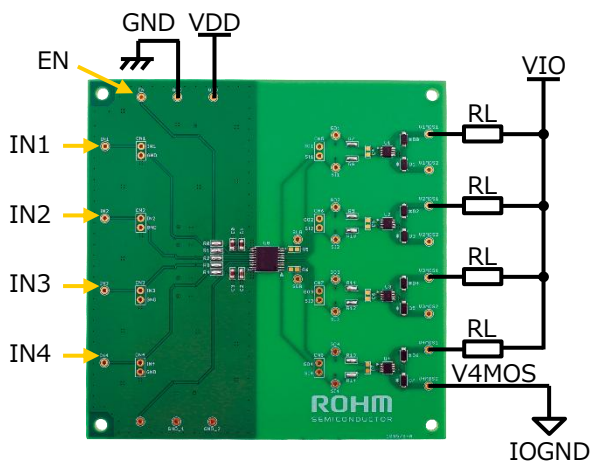

Figure 4. Input Signals
- Set the EN terminal to High or Open, and input digital signals to the IN1, IN2, IN3, and IN4 terminals (Figure 4). When the EN terminal is set to Low, Isolated Switch Driver enters power-down mode.